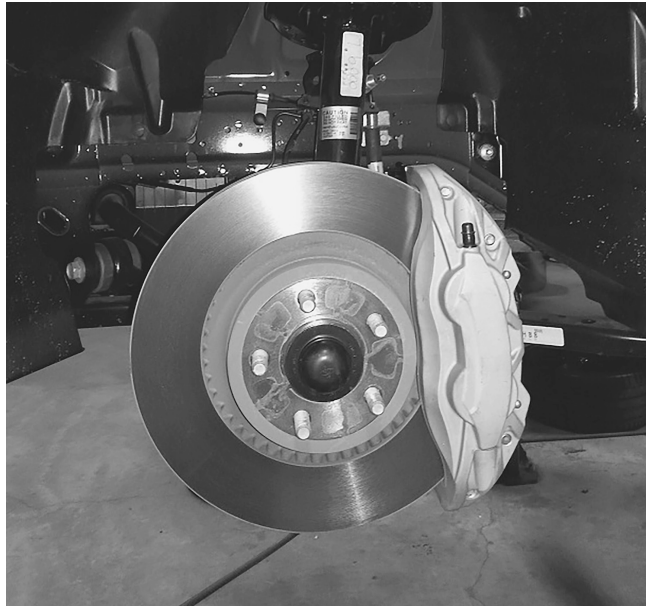

Fig. 2
2. Remove the front wheel and support the hub assembly. (Fig. 2)